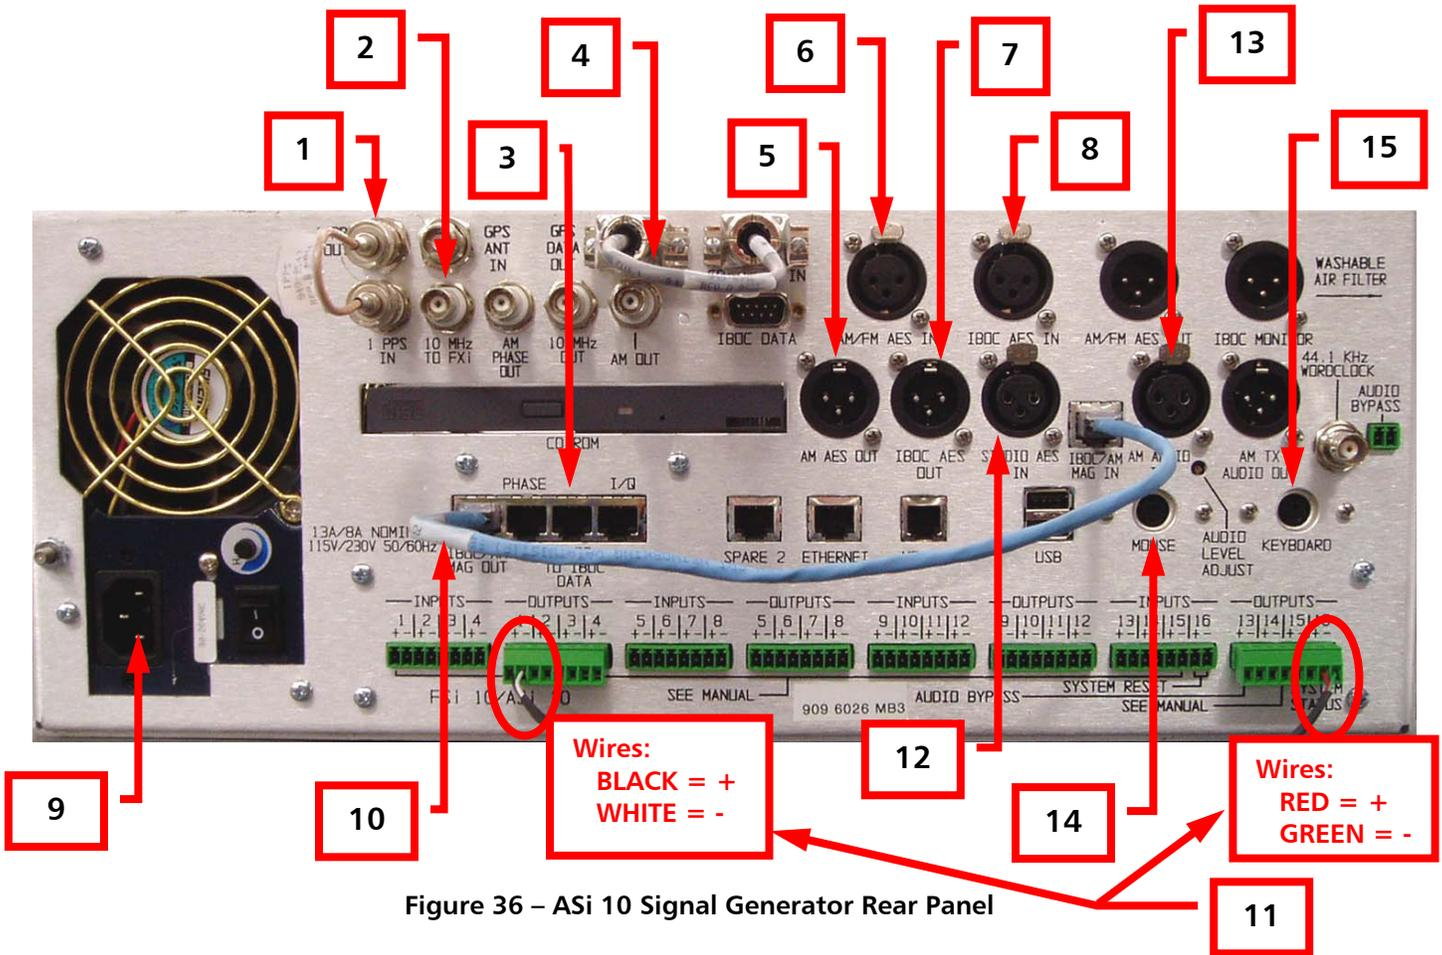

Figure 36 – ASi 10 Signal Generator Rear Panel
11. **DIGITAL CARRIER ON/OFF & STATUS OUTPUT** – Connect the **Digital Carrier ON/OFF & Status Output Cable (947-5002)** to **Outputs 1 (Blk/White wires)** and **Output 16 (Red/GRN wires)** as shown in Figure 36 (see Section 7.3 for transmitter connections).